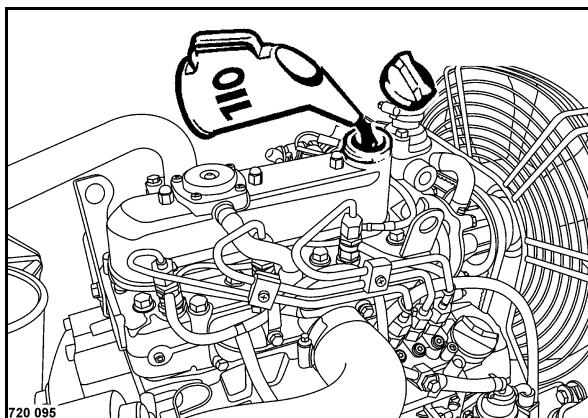

Fig. 98
- Fill in new engine oil (Fig. 98).